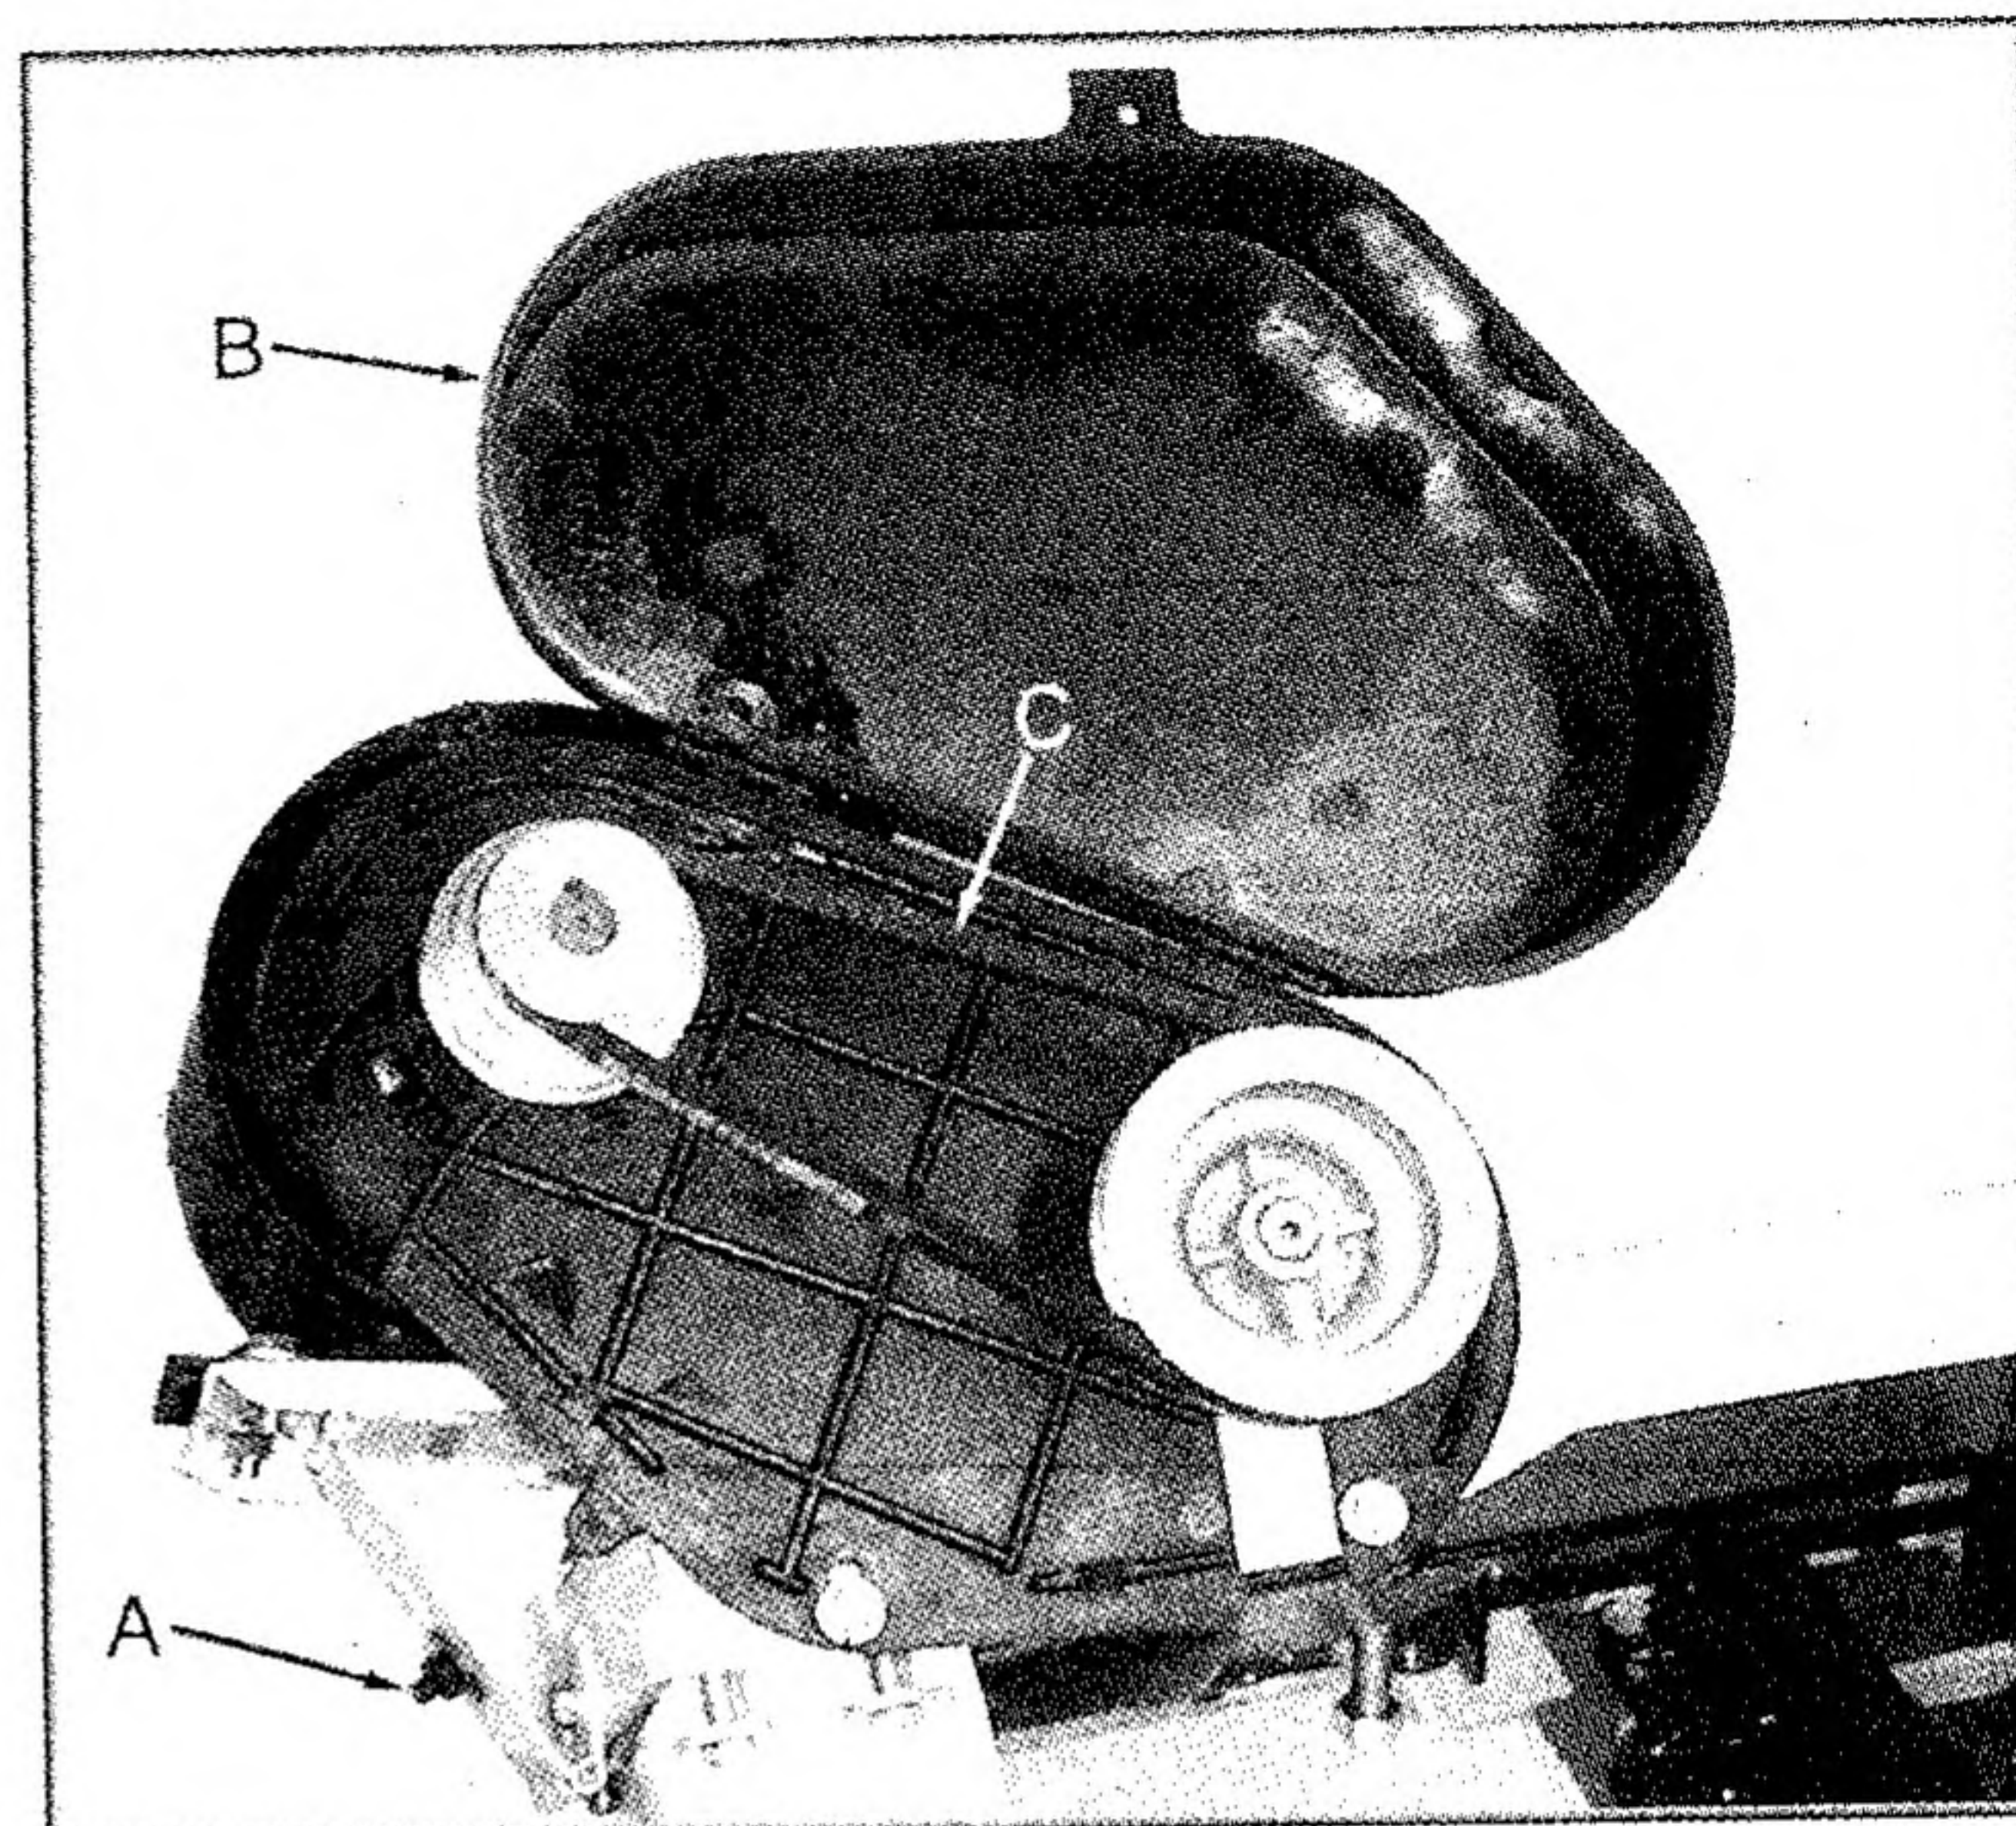

Fig. 10
3. Loosen tensioning plate hex nut (A, Fig. 10).
4. Open pulley cover (B, Fig. 10). Lift motor with one hand while placing the belt (C, Fig. 10) on the desired pulley combination.
5. Tension belt by pressing down on the motor while tightening hex nut (A, Fig. 10) until finger pressure on the belt between the two pulleys causes approximately 1/2" deflection. Close pulley cover. Don't over tighten the belt.